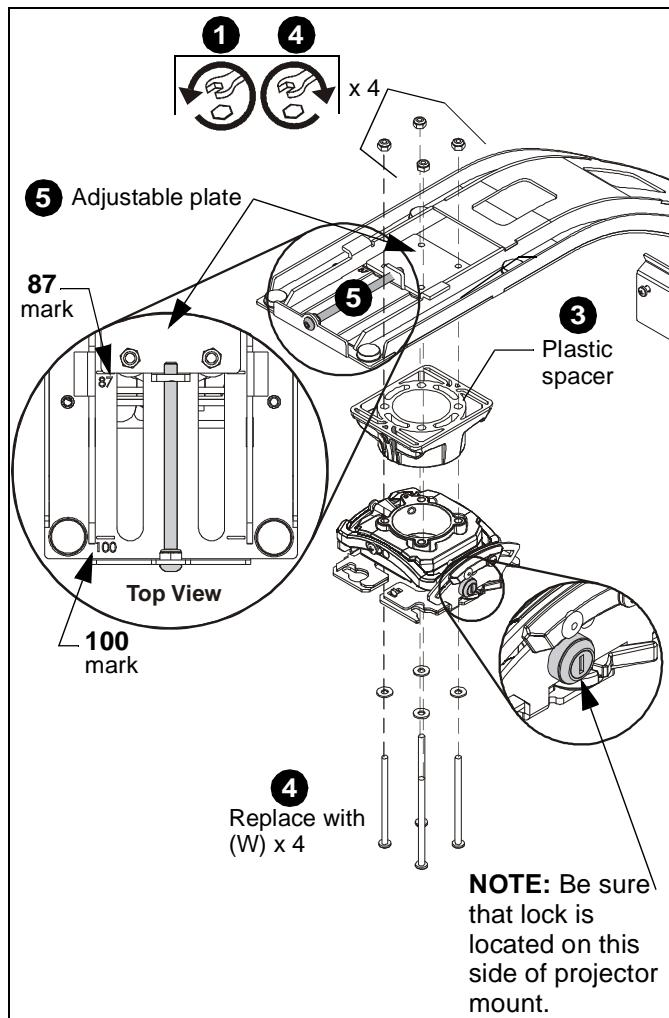

Figure 5
1. Support the projector mount from underneath the boom arm while removing the four nuts from top of boom arm. (See Figure 5)
3. Remove and discard plastic spacer. (See Figure 5)
- IMPORTANT !** : Make sure that lock on projector mount is located on correct side of boom arm. (See Figure 5)
- IMPORTANT !** : Make sure that shoulder washers on top of boom arm haven't shifted. Be sure to fasten Phillips machine screws (W) through the shoulder washers.
4. Replace long fasteners with four 10-24 x 1-3/4" Phillips machine screws (W), and refasten projector mount to boom arm. (See Figure 5)
5. Turn adjustment bolt to move projector mount towards end of boom arm, until front of adjustable plate lines up with "100" marking on boom arm. (See Figure 5)